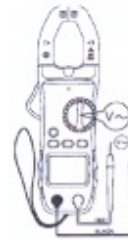

Fig.4
(3) Press Hz/DUTY key to display frequency and duty ratio value. (fig.4)